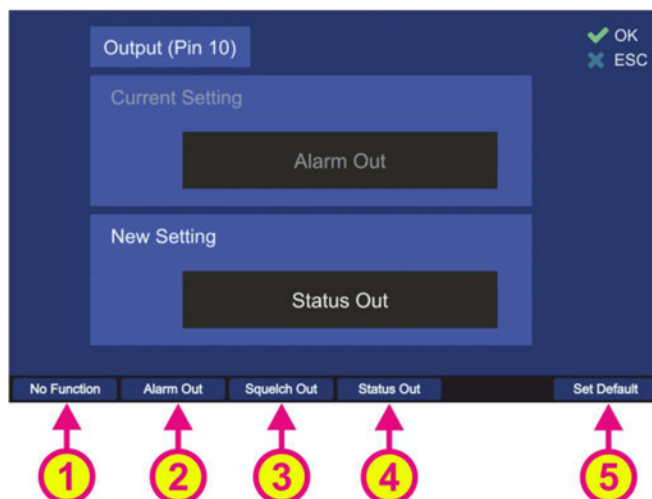

Figure 164. Assigning a function to the output pin
1. **Alarm Out**: Choosing this setting connects the programmable output pin with the pin for the alarm relay (s. Figure 164, position 2).
2. **Squelch Out**: Choosing this setting (s. Figure 164, position 3) connects the programmable output pin with the “Squelch Out” pin of the “POWER + IO” connector (s. chapter 8.1).
3. **Status Out**: Choosing this setting connects the programmable output pin with the internal error status output of the device (s. Figure 164, position 4).
4. **No Function**: Choosing this setting allocates the state “No Function” to the programmable pin, which means that the pin is not related to any function (s. Figure 164, position 1).
- Choose the new setting using one of the hotkeys (s. Figure 164), which will then appear in the “New Setting” field.
- Press the hotkey “Set Default” (s. Figure 164, position 5) to use the default value (“Alarm Out”).